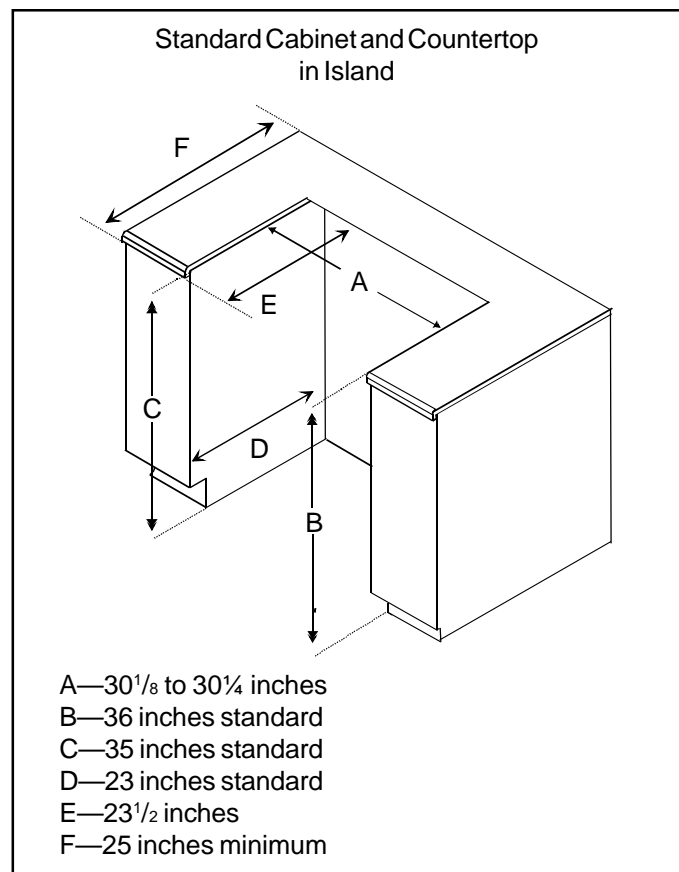

Figure 3
- Drop vertical line from back of cutout and measure $1\frac{1}{2}$ inches when installed in island. See Figure 3.